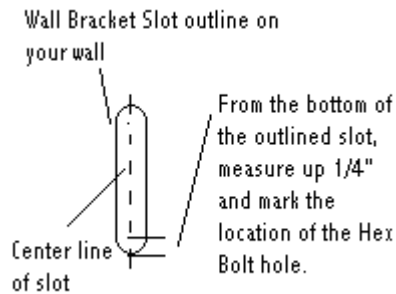

Figure 2c:
- Starting on the Left side. From the bottom of the outlined slot, measure up the center line $\frac{1}{4}$ " and mark the location of the left Hex Bolt hole. Repeat for the right side. (See Figure 2c).
- 7a. Install the Hood Unit onto the Hook Screws and ensure it is level. Once level, double check the locations of the Hex Bolt marks, making new marks if needed. Once final Hex Bolt locations are determined, **remove** the Hood Unit and use a 13/64" drill bit to pre-drill holes in both left and right locations for the Hex Bolts as shown in Figure 2c. **Do not** install Hex Bolts at this time.
- 7b. Install the Hood Unit onto the Hook Screws and ensure it is level. Once level, double check the locations of the Hex Bolt marks, making new marks if needed. Once final Hex Bolt locations are determined, **remove** the Hood Unit and using a 3/16" masonry drill bit, pre-drill pilot holes 1 3/4" deep into the walls at both the left and right locations for the Hex Bolts as shown in Figure 2c. With a 5/16" masonry drill bit, enlarge the holes 1" deep. Insert plastic masonry anchors into the holes, large side out. **Do not** install Hex Bolts at this time.